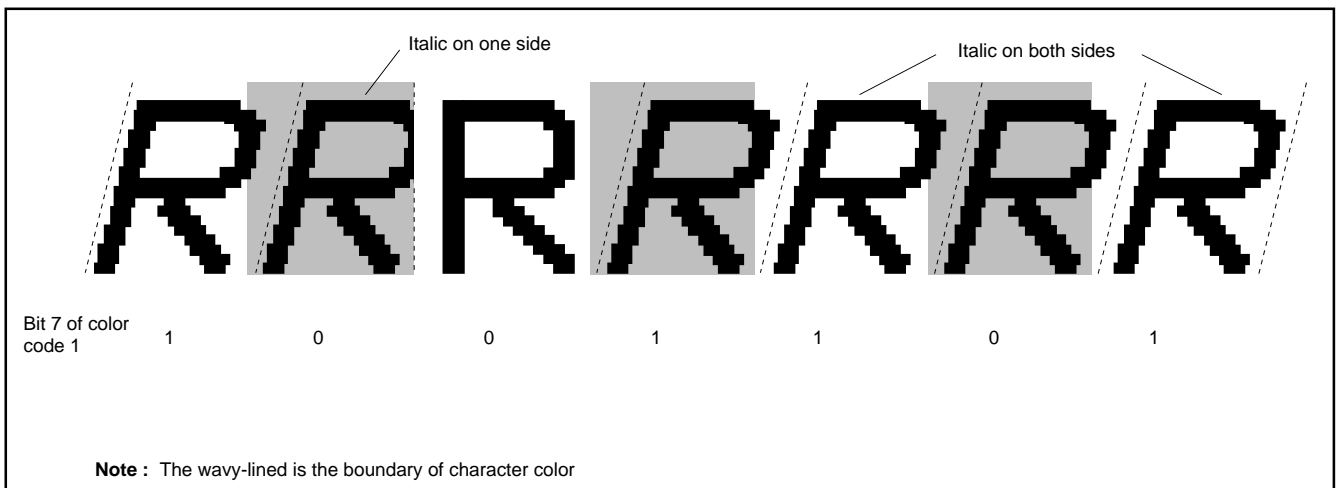

Fig. 85. Example of Italic Display
The display example of the italic and underline is shown in Figure 85. In this case, "R" is displayed.
**3:** The boundary of character color is displayed in italic. However, the boundary of character background color is not affected by the italic (refer to Figure 85).
**4:** The adjacent character (one side or both side) to an italic character is displayed in italic even when the character is not specified to display in italic (refer to Figure 85).